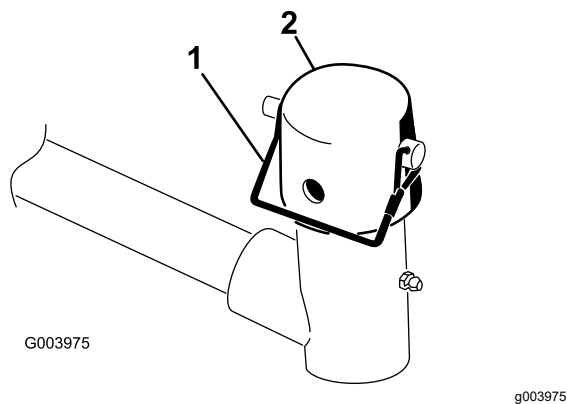

Figure 9
9. Remove the snapper pin and the cap from the lift-arm pivot yoke (Figure 9).